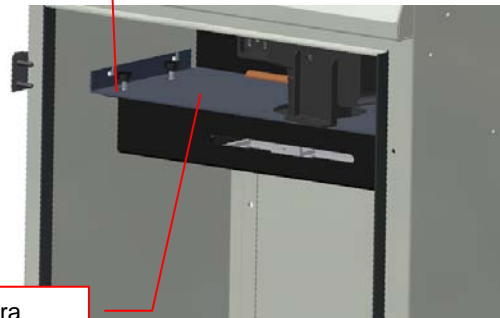

Figure 1
1. Unscrew the four plastic head screws (Fig. 1) that holds the filter tray to the camera mounting plate.
3. Fasten the filter tray to the camera mounting plate with the four plastic head screws (Fig. 1).
2. Run the cord behind the camera mounting plate (shown in Fig. 1) and plug into the lamp outlet.